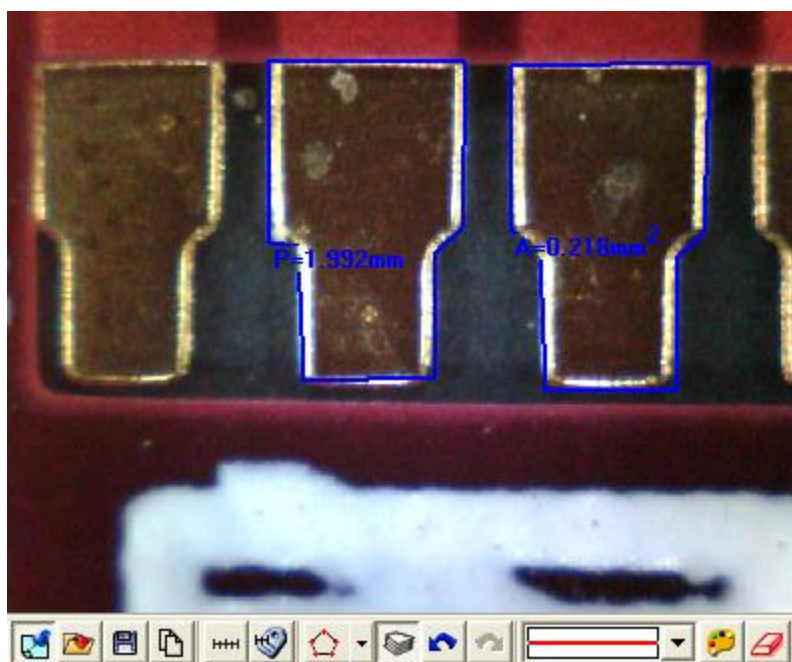

Fig 5-77 Polygon
(14) Polygon : A polygon is a shape that is made up of many sides and has only line segments. Choose “” to measure the area and Perimeter, See Fig 5-77, the calculated polygon P (Perimeter) is 1.992mm, A(Area) is 0.218 mm² .